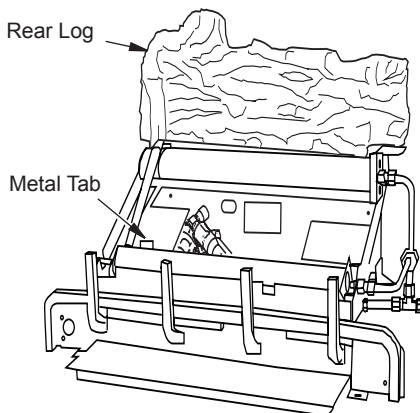

Figure 29 - Installing Rear Log
- Place rear log in back corner sections of base assembly as shown in Figure 29. The rear log is designed to lean back slightly when installed correctly.